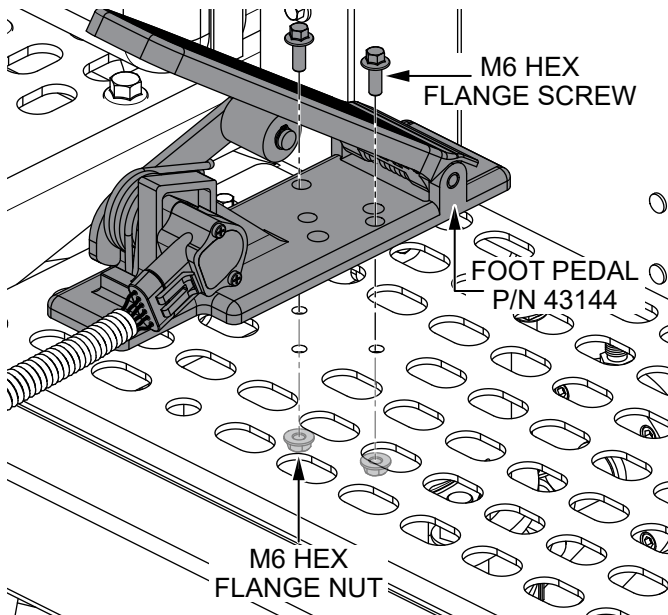

Figure 9. Install Foot Pedal
3. Use two **M6 hex flange screws** and two **M6 hex flange nuts** that were removed earlier to secure the **foot pedal (P/N 43144)** to the front platform. See Figure 9.